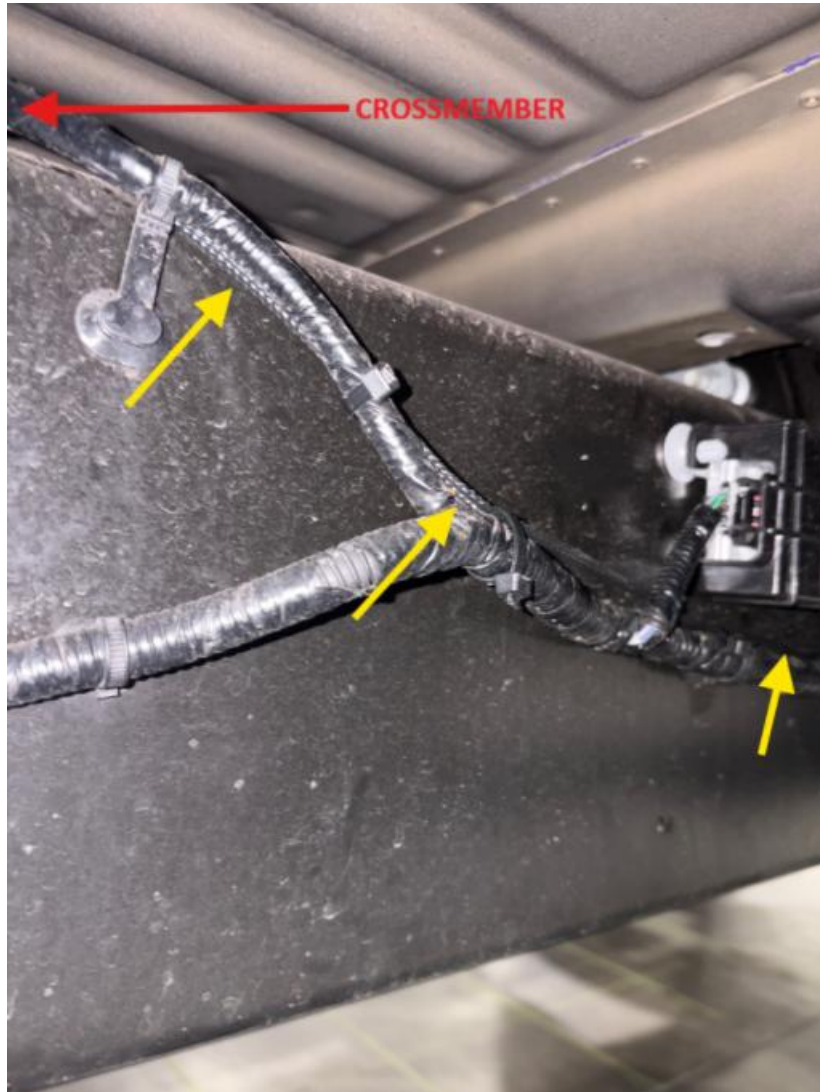

Figure 12
- e. Zip tie the 30302098AA harness to the black factory harness on the frame running up to the front passenger wheel well (Fig. 12).